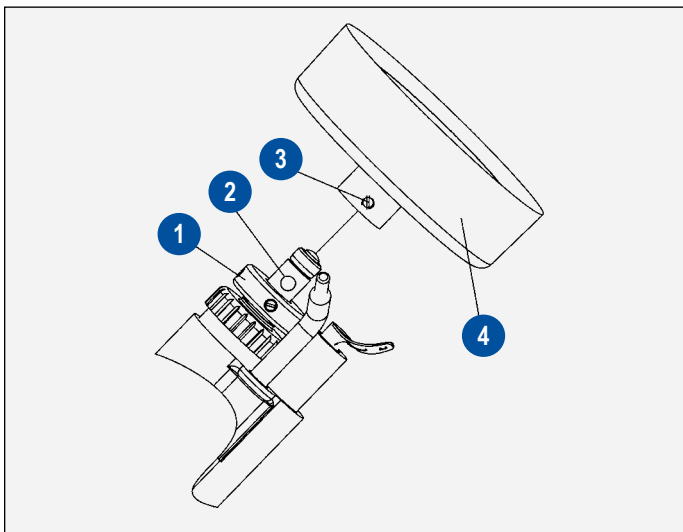

Figure 7: Installing Bell on Shaft
3. Install the bell over the shaft. Hold the shaft of the applicator and rotate the bell onto the shaft until the bell is completely seated. Align the set screw and the flat on the shaft. Tighten the set screw at the bell hub hand tight. (Refer to Figure 7)
INSTALLING BELL ON SHAFT (Figure 7)